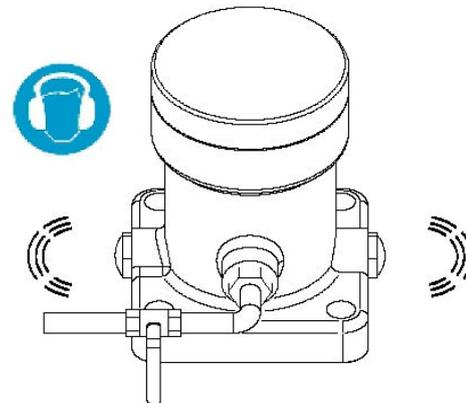

Figure 2.6
The dB(A) value indicated in the data sheets shows the value revealed in use, at the maximum supply pressure at a distance of 1 metre with the vibrator equipped with the appropriate silencer and secured to a test bench. For models in the VPB family this value is higher than 80 dB (A); with the aim of protecting workers during the use of the vibrator the use of adequate means of personal protection (hearing protection systems) is required (FIG. 2.6). However, once the vibrator has been secured in its final position, to the equipment to be vibrated, it is obligatory to measure the individual exposure times of the operator, because these could exceed the value of 80 dB(A) for individual daily exposure, even for models for which the noise measured on the bench was less than 80 dB(A).